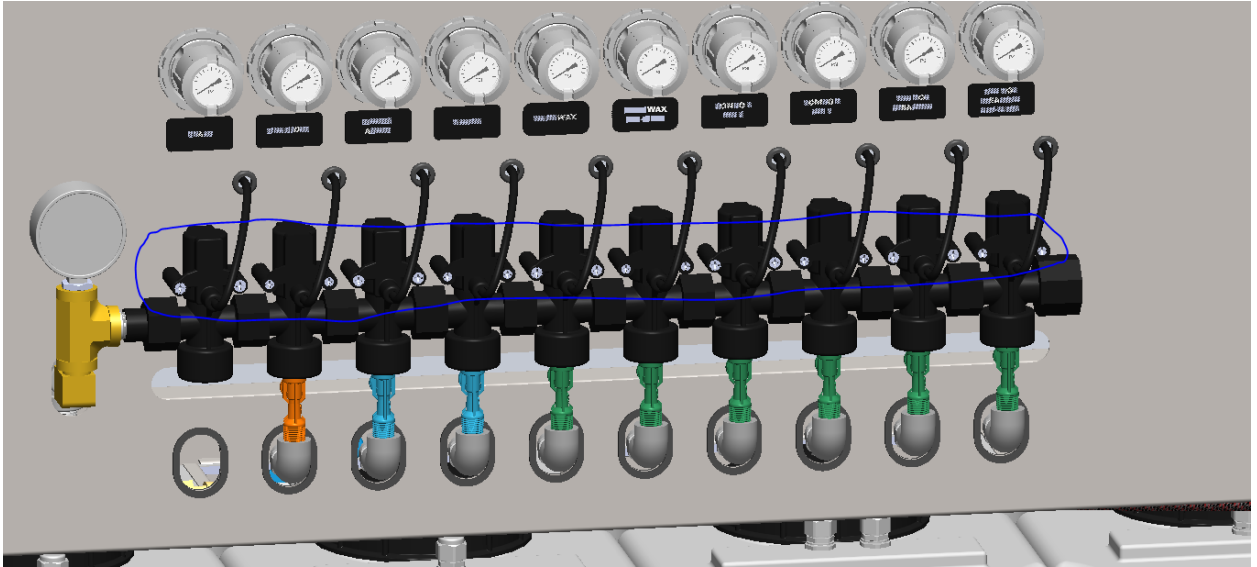

Figure 2. Bolts being removed.
2.) Remove bolts on Hydrflex manifold shown in Figure 2.